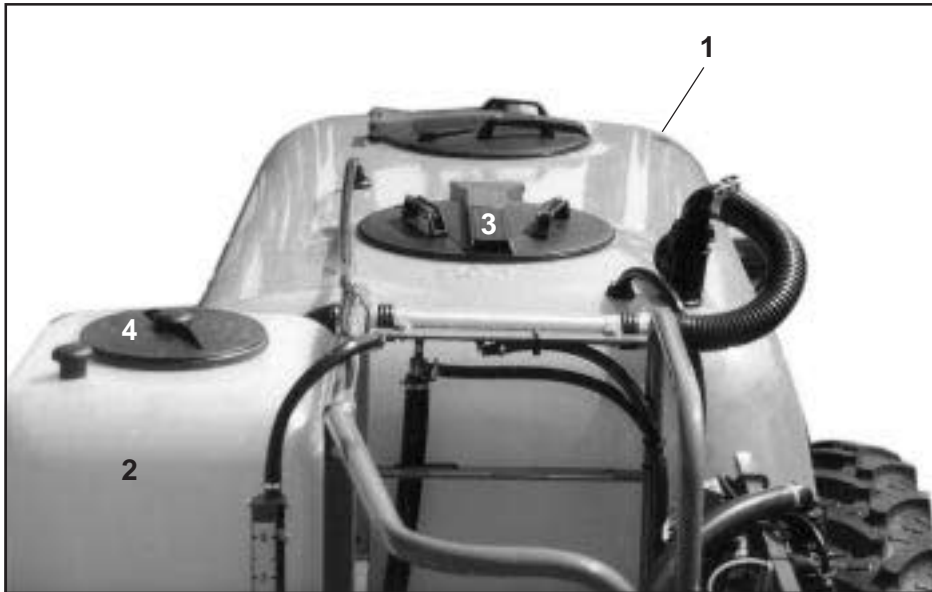

Fig. 6.1
- **Filling** the spray mixture tank (Fig. 6.1/1) and flushing water tank (Fig. 6.1/ 2) of the **UG 2200 Power** and of the **UG 3000 Power** is always conducted **via the filling opening** (fig. 6.1/ 3) or (Fig. 6.1/ 4) **by a water pipe in "free flow"**. Close the filling opening by means of a folding of screw lid (Fig. 6.1/ 5) or (Fig. 6.1/6).